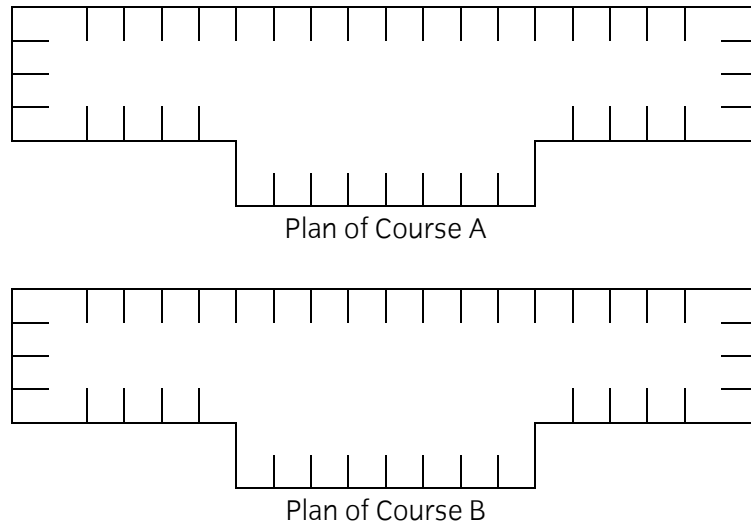

Figure 1
- 5 Complete the bonding arrangement in figure 1 below for courses A and B. All spacings are quarter of a brick.